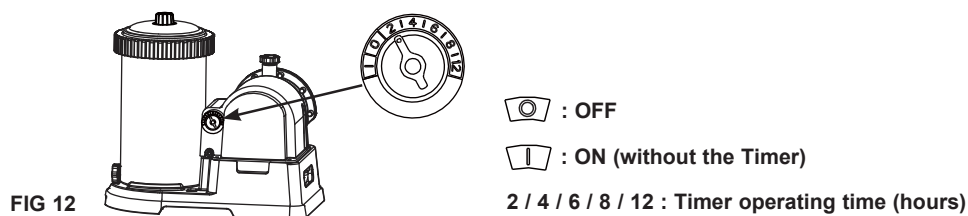

FIG 12
- A. Plug the power cord into the electrical outlet and set the timer dial to the desired operating hours (see Fig. 12). See the "Operating Time Table" for the required operating hours related to each pool size.